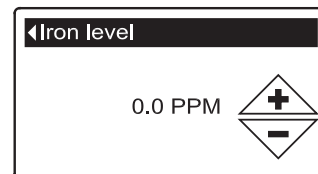

FIG. 43
5. Press the SELECT (O) button to display the Iron level screen (See Figure 43).